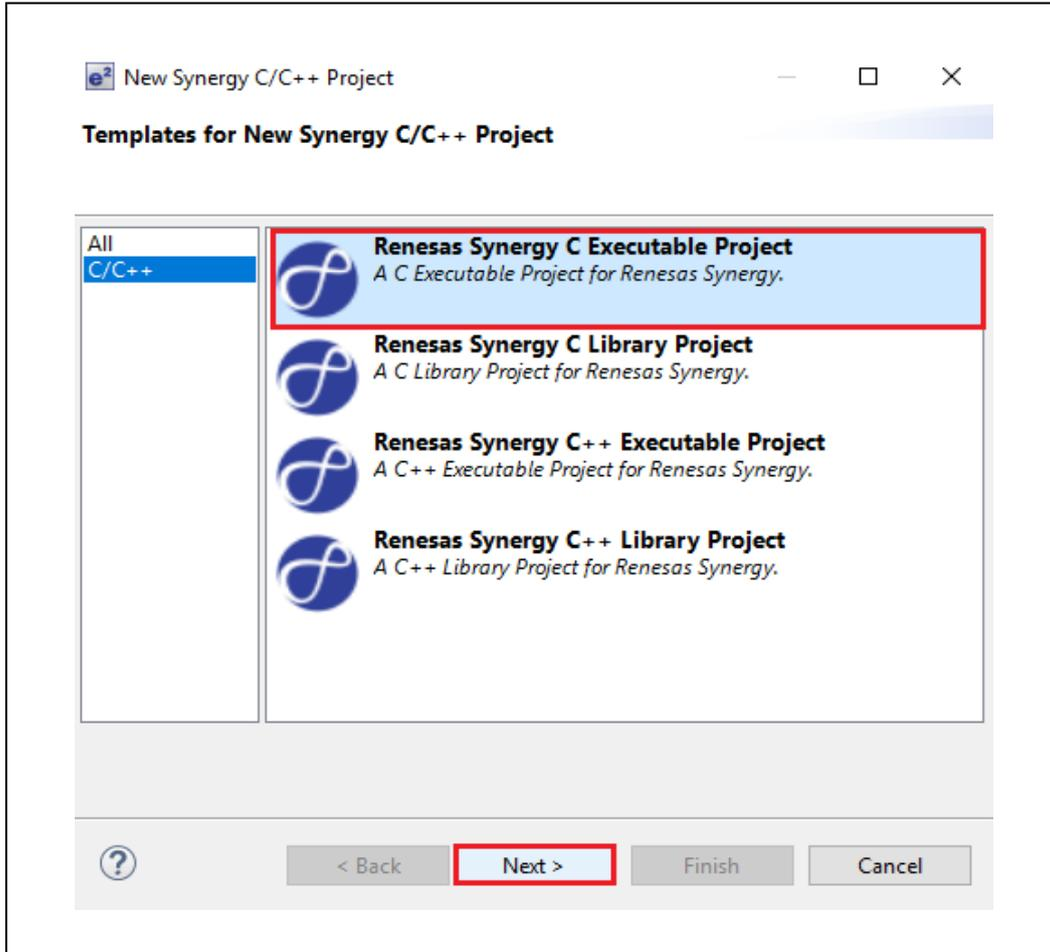

Figure 2 Selecting the Synergy C project template
2. Select the **Renesas Synergy C Executable Project** template (Figure 2). Click **Next** to continue.